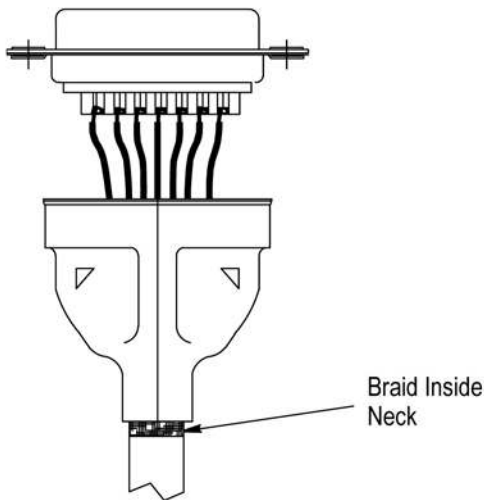

Figure 5
4. Solder the conductors to the contacts as shown in Figure 5.